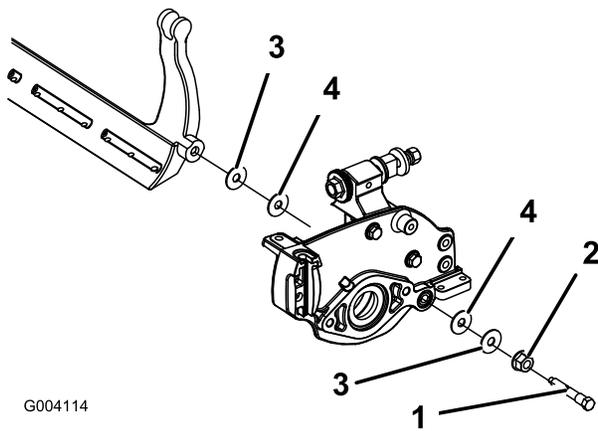

Figure 67
4. Remove each bedbar bolt allowing bedbar to be pulled downward and removed from machine. Account for 2 nylon and 2 stamped steel washers on each end of bedbar (Figure 67).